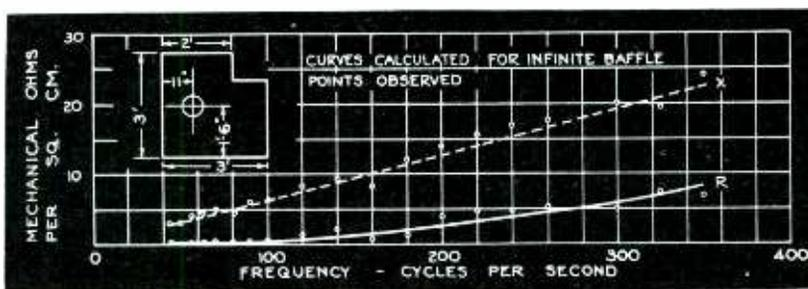

Fig. 6—Acoustic radiation impedance of 7.5/8 in. hole in plane baffle
The acoustic radiation impedance, measured by the above method, confronting one side of a typical loudspeaker diaphragm mounted in a plane baffle of moderate size is shown (Fig. 6). The peculiar shape of the baffle was made necessary by the arrangement of the measuring apparatus. The experimental values are indicated by the plotted points, while the curves were calculated from Eq. (2) which Rayleigh derived about 40 years ago. It appears from the present measurements that, although it was based on the assumption of an infinite baffle and radiation into free space, this equation may justifiably be applied to the usual practical conditions of operation.